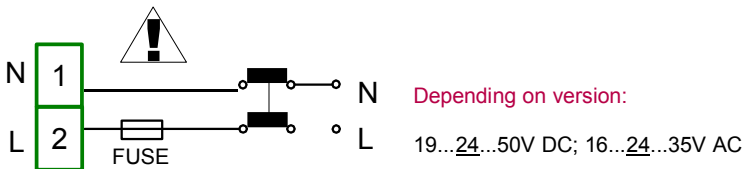

Fig. 4.6. Connection of power supply
- The unit is not equipped with an internal fuse or power supply circuit breaker. Because of this an external time-delay cut-out fuse with a small nominal current value must be used (recommended bipolar, max. 2A) and a power supply circuit-breaker located near the unit (Fig. 4.6). In the case of using a monopolar fuse it must be mounted on the active wire (L).